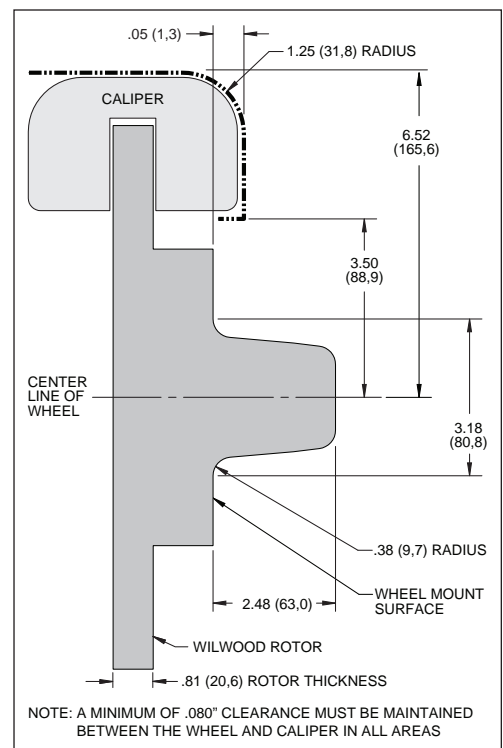

Figure 2. Wheel Clearance Diagram
- Verify wheel clearance utilizing Figure 2.
- **WARNING:** The wheel contact surfaces must seat completely on the face of the hub. If any contact surfaces overhang the outside diameter of the hub face, a 6.60" diameter x .20" thick steel spacer (item 26, Wilwood P/N 300-11961) MUST be used between the wheel and the hub.